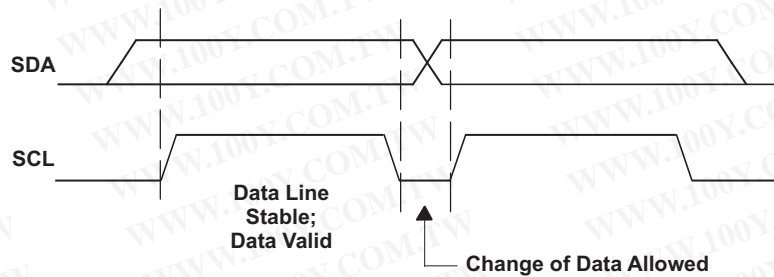
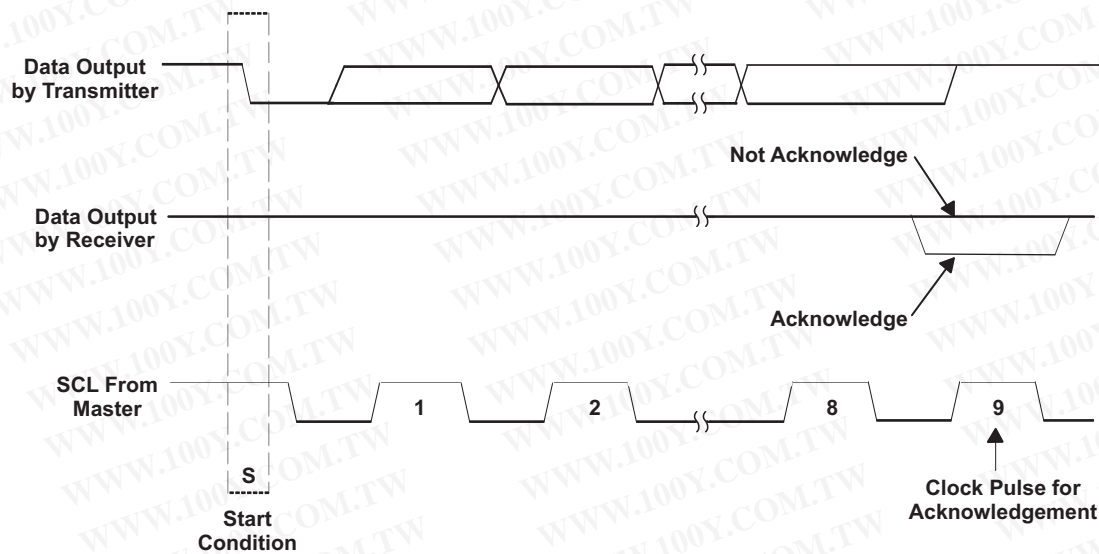

Figure 71. I²C Bit Transfer
Figure 72. I²C Acknowledge
- The master then generates the SCL pulses and transmits the 7-bit address and the read/write direction bit R/W on the SDA line. During all transmissions, the master ensures that data are valid. A valid data condition requires the SDA line to be stable during the entire high period of the clock pulse (see Figure 71). All devices recognize the address sent by the master and compare it to their internal fixed addresses. Only the slave device with a matching address generates an acknowledge (see Figure 72) by pulling the SDA line low during the entire high period of the ninth SCL cycle. On detecting this acknowledge, the master knows that a communication link with a slave has been established.